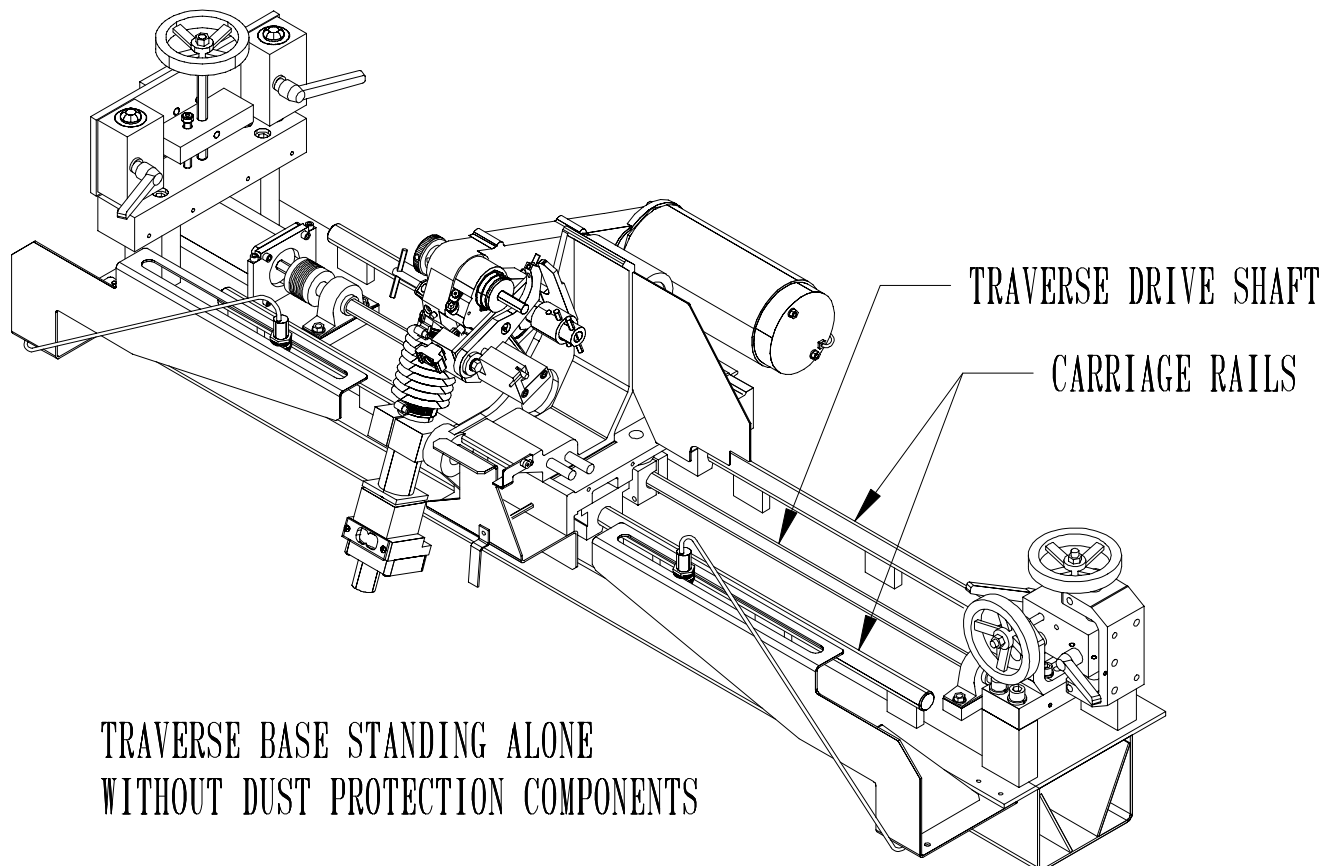

FIG. 10
STEP 2--Flood spray all three shafts with a spray lubricant (do not use a teflon based lubricant) until the lubricant is dripping off the shafts. See FIG. 10 Then run the carriage back and forth through its range of travel. This will carry the lubricant into the actuator and bearings.